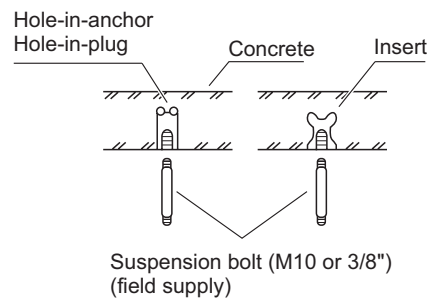

Fig. 2-41
- (1) Fix the suspension bolts securely in the ceiling using the method shown in the diagrams (Figs. 2-41 and 2-42), by attaching them to the ceiling support structure, or by any other method that ensures that the unit will be securely and safely suspended.